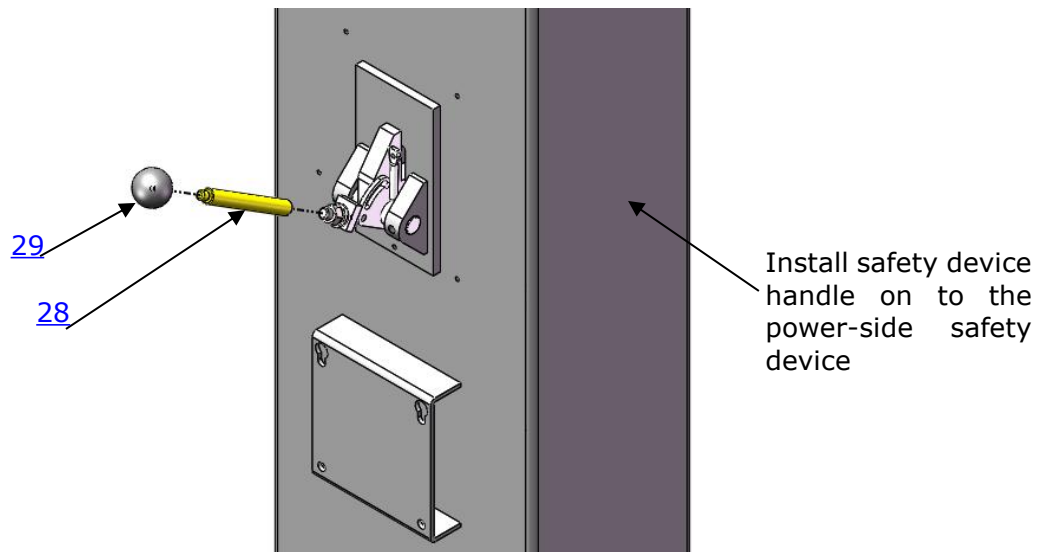

Fig.23
I. Install safety device (See Fig. 23).